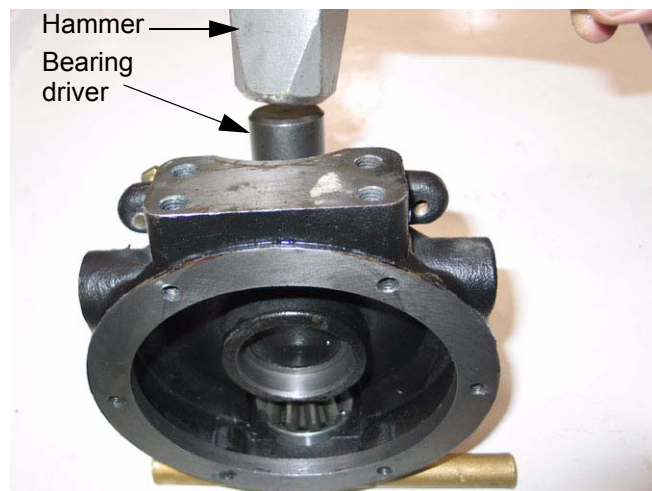

Figure 8.16
8.16. If the tapered roller bearing required replacement, drive or press the outer race of the new bearing into the bore at the top of the drop axle housing using an appropriate tool. See Figure 8.16.